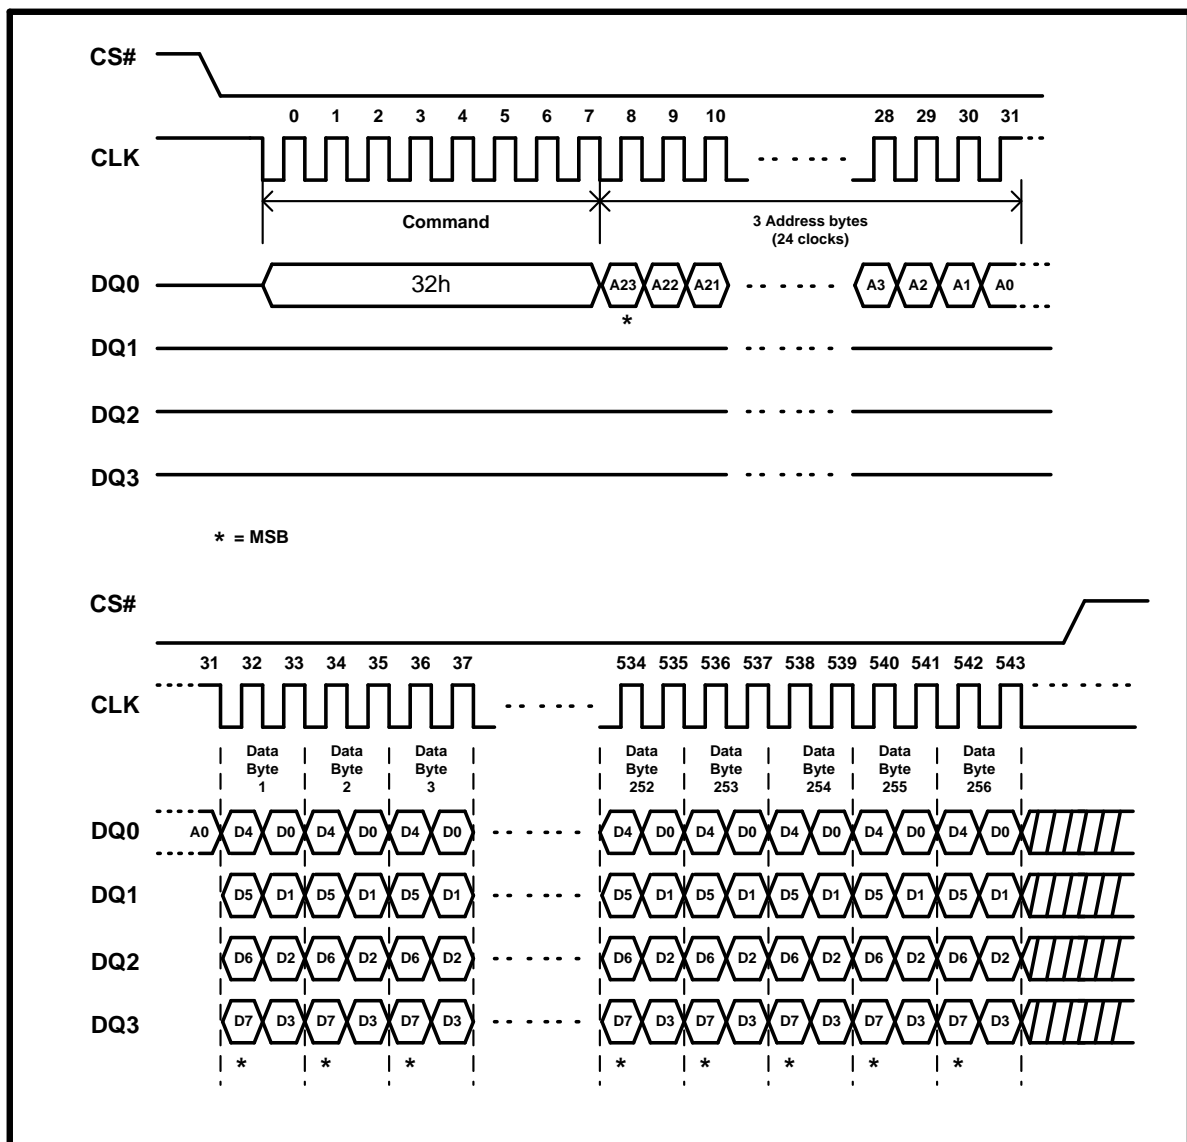

Figure 25. Quad Input Page Program Instruction Sequence Diagram (SPI Mode only)
To use Quad Page Program (QPP) the WP# and HOLD#/RESET# Disable (QE) bit in Status Register must be set to 1. A Write Enable instruction must be executed before the device will accept the Quad Page Program (QPP) instruction (SR.1, WEL=1). The instruction is initiated by driving the CS# pin low then shifting the instruction code “32h” followed by a 24-bit address (A₂₃-A₀) and at least one data byte, into the IO pins. The CS# pin must be held low for the entire length of the instruction while data is being sent to the device. All other functions of Quad Page Program (QPP) are identical to standard Page Program. The Quad Page Program (QPP) instruction sequence is shown in Figure 25.